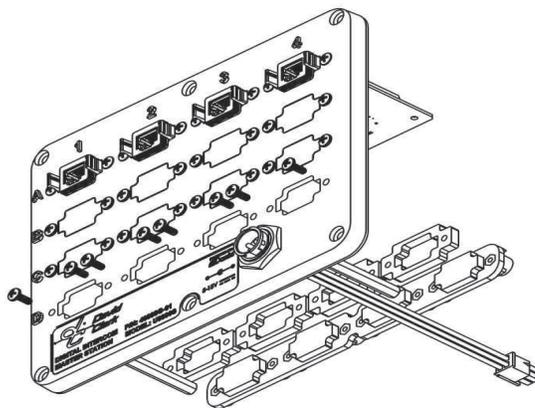

Figure 4 – Adding/Removing Add-In Cards
1. Remove the eight screws from the blank plate and remove the plate (**Figure 4**).
1. Remove the eight screws from the card and remove the card (**Figure 4**).